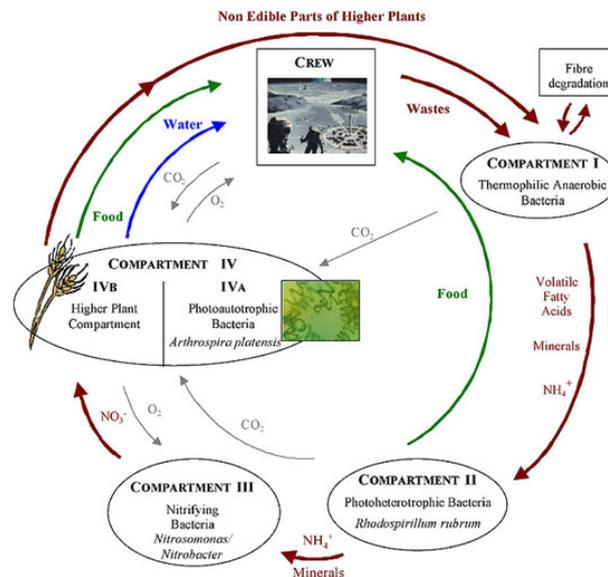

Figure 1 MELISSA LOOP CONCEPT
MELISSA Compartment I (CI) is first compartment of MELISSA loop. This compartment transform wastes to CO₂ and volatile fatty acids. See Figure 1 and MELISSA documentation to further information.